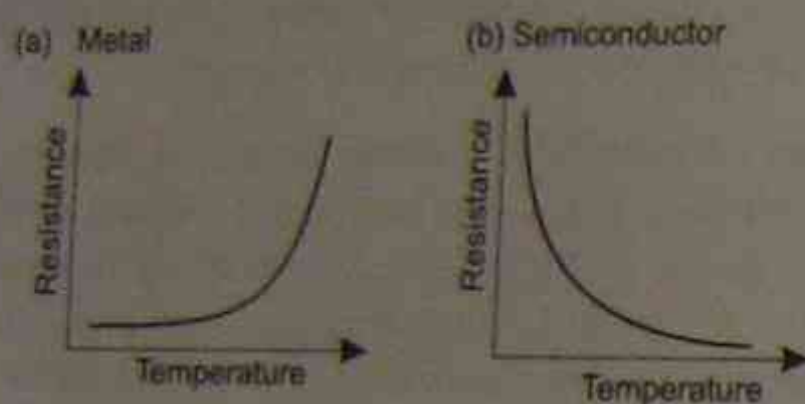

Figure 3.36 Resistance-temperature graph for (a) metal and (b) semiconductor
3.36(a)). (Compare this with the resistance-temperature graphs for semiconductors (Figure 3.36(b) where resistance decreases with increasing temperature.)